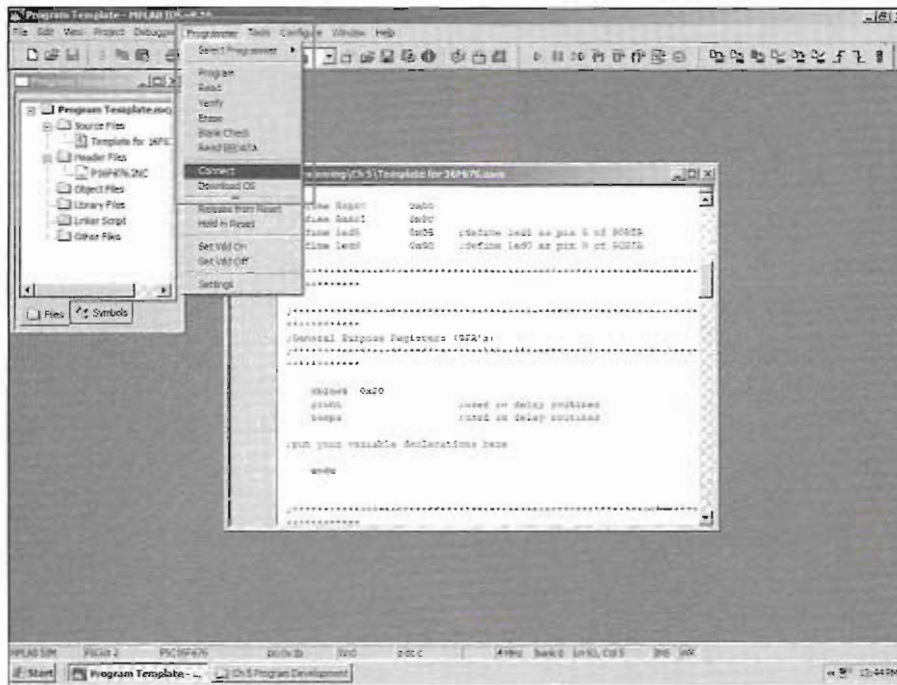
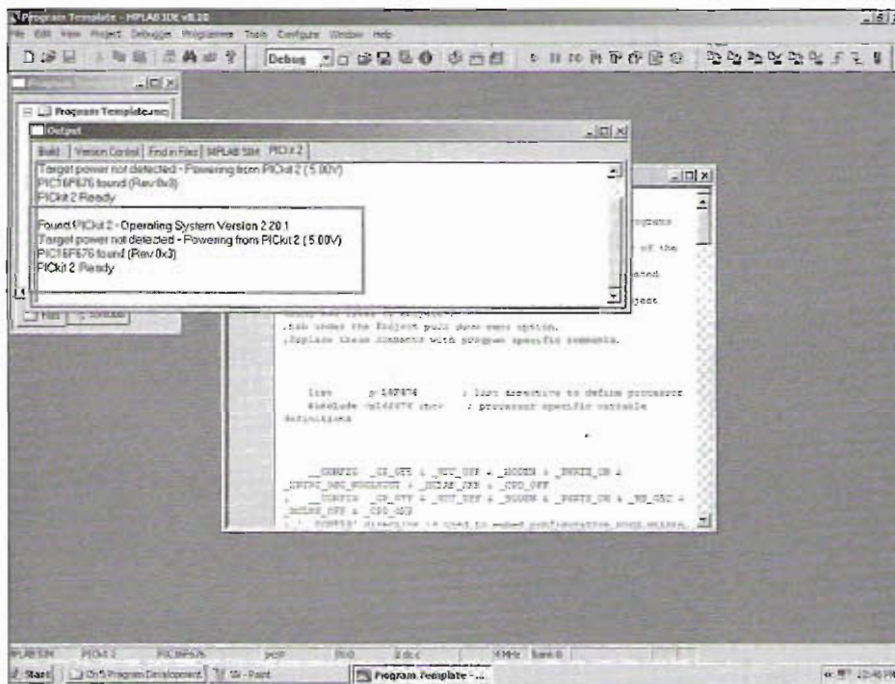

Figure 5-23 — In the *MPLAB IDE* menu bar, select PROGRAMMER/CONNECT.
Figure 5-24 — You should see a dialog box confirming the programmer and device are recognized.
Step 12. Connect your *PICKit 2* programmer to the computer USB port and insert a PIC16F676 device into the programmer socket. In the *MPLAB IDE* menu bar, select **PROGRAMMER/CONNECT** (**Figure 5-23**). If all goes well and the programmer and device are recognized, you should see a dialog box confirming the status (**Figure 5-24**).